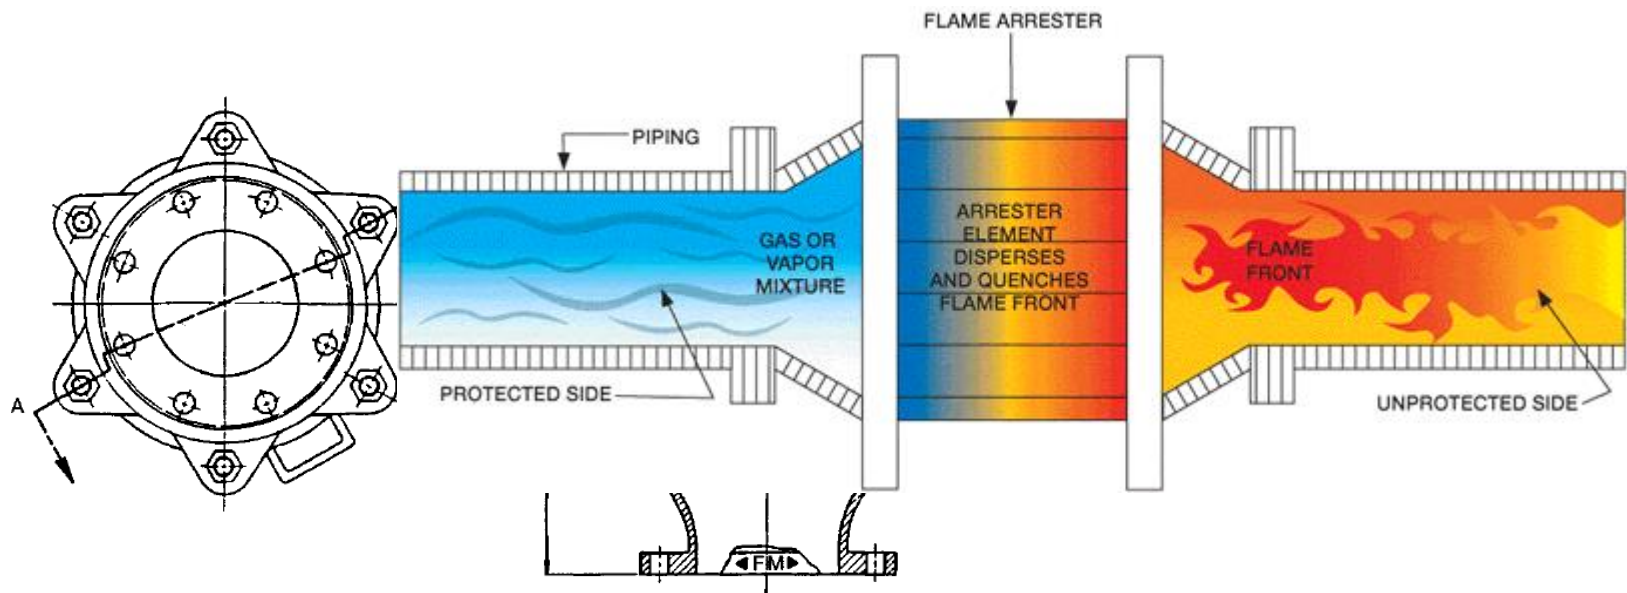

Figure 2-11. Typical flame arrester (courtesy of Groth Equipment Corp.).
- Figure 2-11 shows a typical flame arrester. The tubes in the device keep a vent flame from traveling back into the tank.